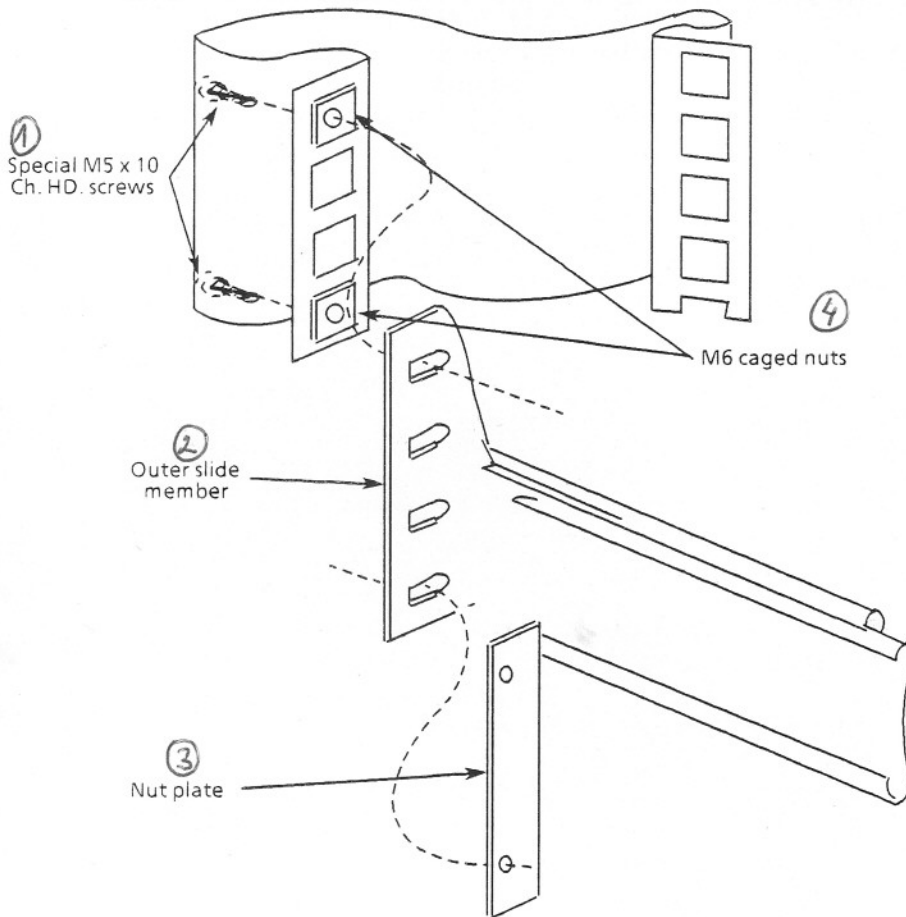

Fig. 2.8 *Fitting the outer slide members into the rack*
4.3.5 Fit the **Outer Slide Members** (two) to the rack as shown in Fig. 2.8